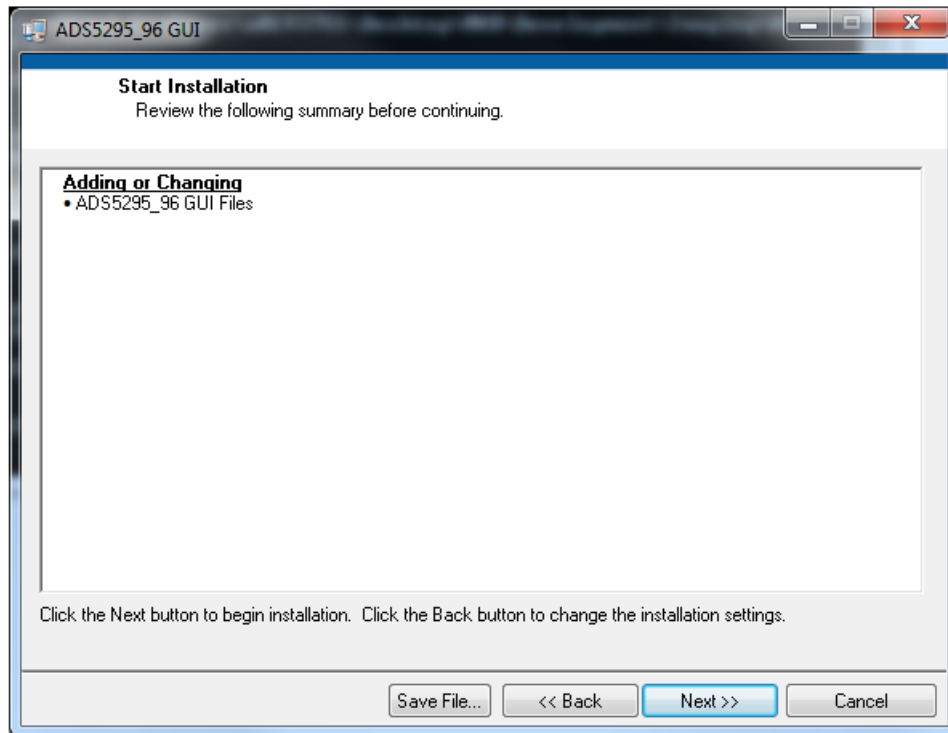

Figure 15. ADS5296 GUI Install (e)
- To begin the installation, press the *Next* button as shown in Figure 15.